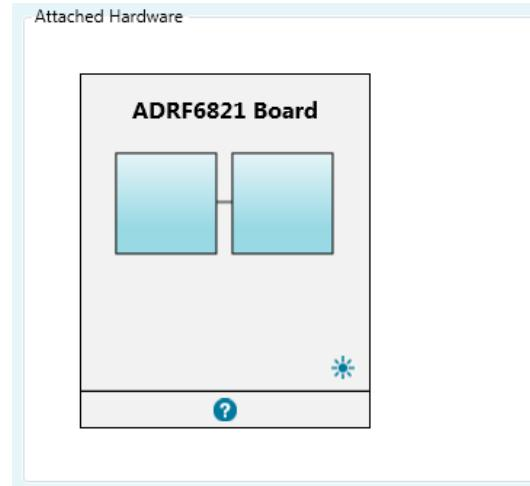
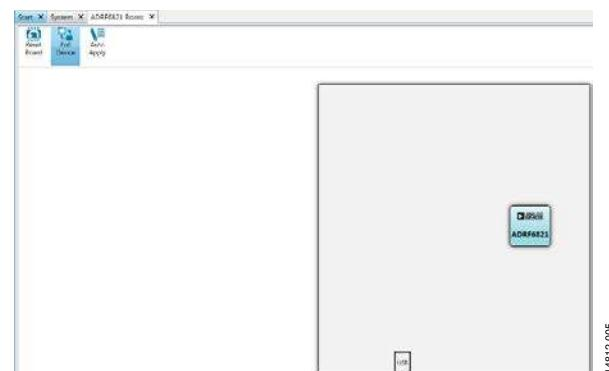

Figure 4. ACE Software Start Page when the ADRF6821 Connects
Figure 5. ADRF6821 Board Tab View
2. When the software main window opens, the software automatically detects the ADRF6821-EVALZ. Double-click the ADRF6821 Board icon shown in Figure 4. This brings the user to ADRF6821 Board tab (see Figure 5).